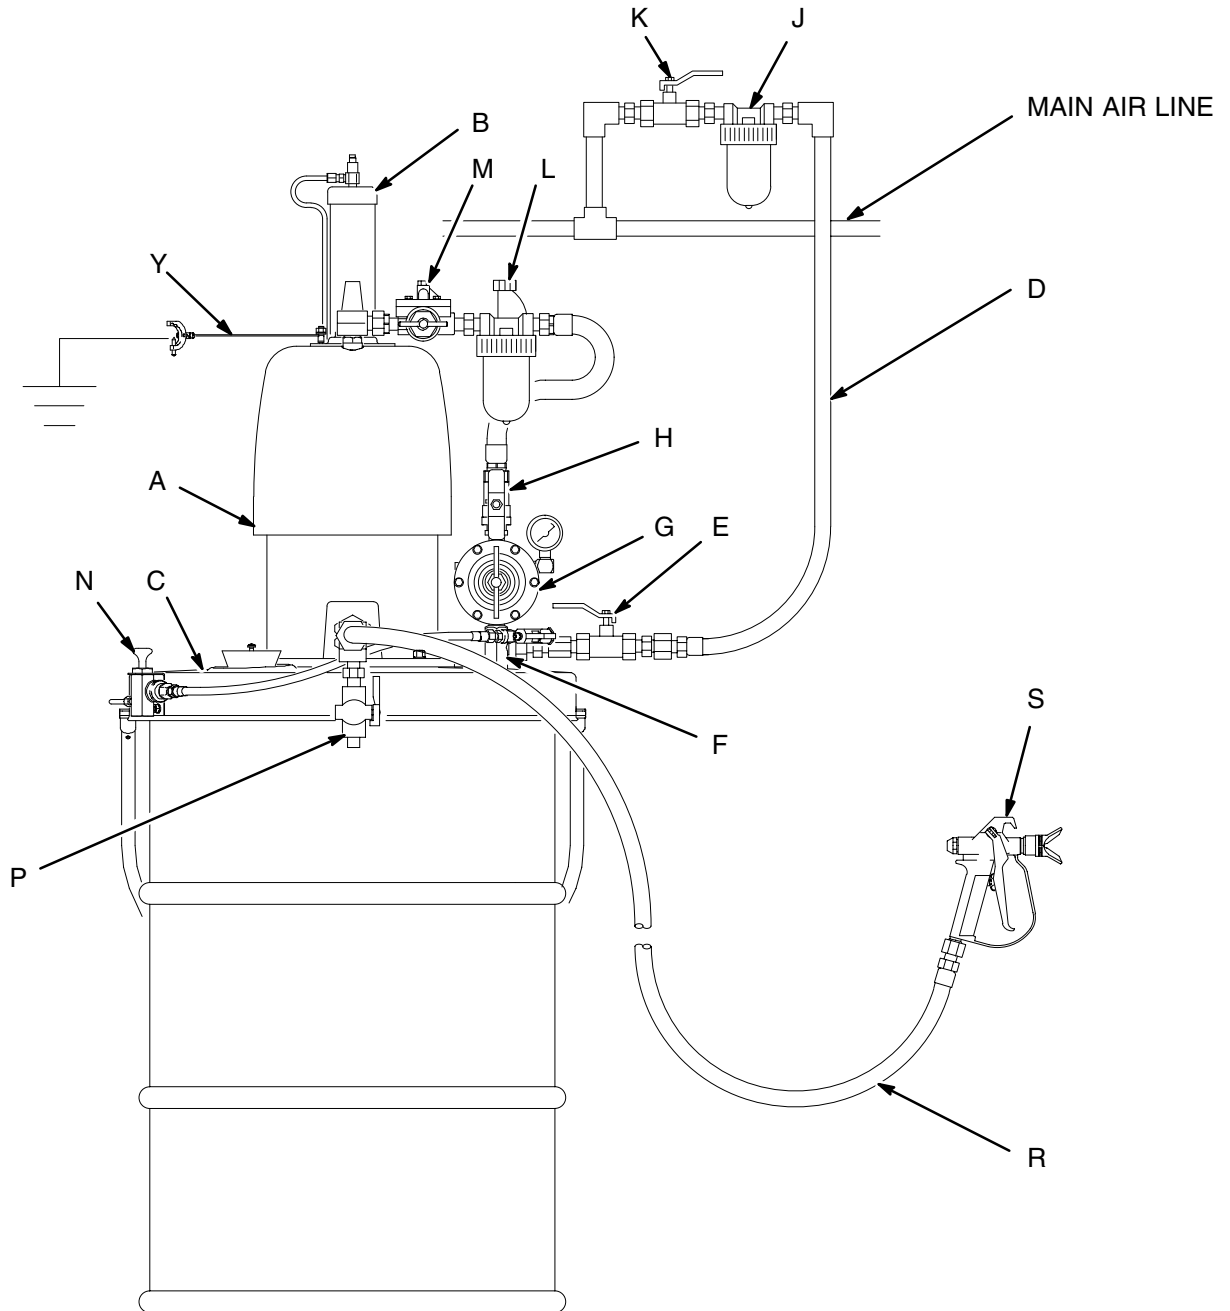

Fig. 2
Fig. 2 is only a guide for selecting and installing system components and accessories. Contact your Graco representative or Graco Technical Assistance (see back page) for assistance in designing a system to suit your particular needs.
Refer to Fig. 2.
Install the following accessories in the locations shown in Fig. 2, using adapters as necessary:
- **A fluid drain valve (P)** is required in your system to relieve fluid pressure in the hose and gun (see the **WARNING** at left). Screw the drain valve into the open branch of a tee mounted in the fluid line. Install the drain valve pointing down, but so the handle will point up when opened.
- **A gun (S)** dispenses the fluid. The gun shown in Fig. 2 is an airless spray gun for highly viscous fluids.